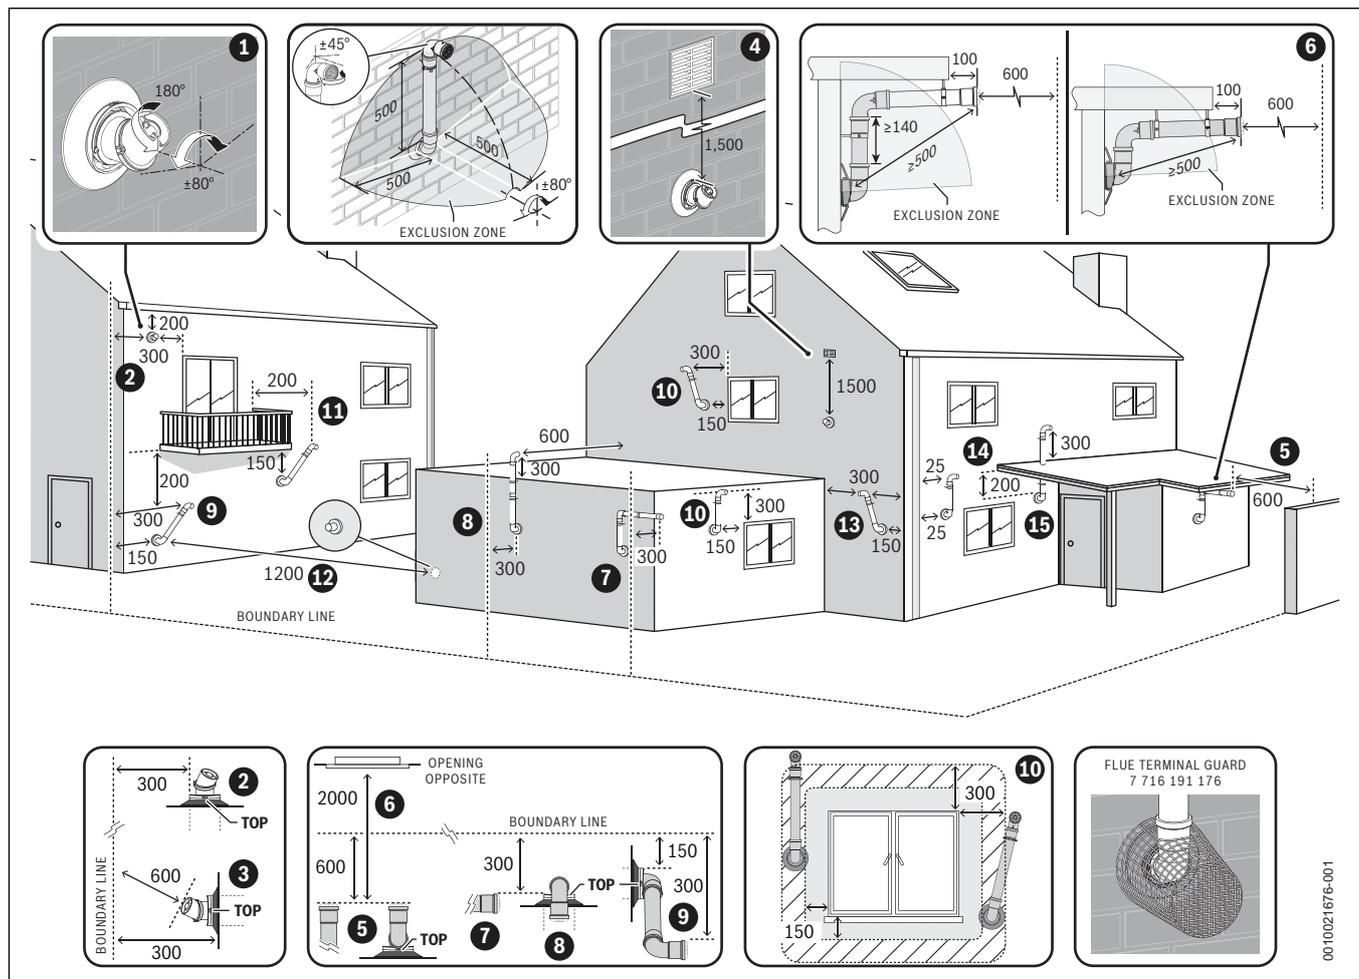

Fig. 31 Plume re-redirect and plume management terminal positions
- ▶ Refer to “Horizontal flue terminal positions” for all concentric flue terminal positions unless the flue position is specified in figure 31 “Plume re-direct and plume management terminal positions”.
Key to figure 31 - Plume re-redirect terminal positions:
Key to figure 31 - Plume management terminal positions: